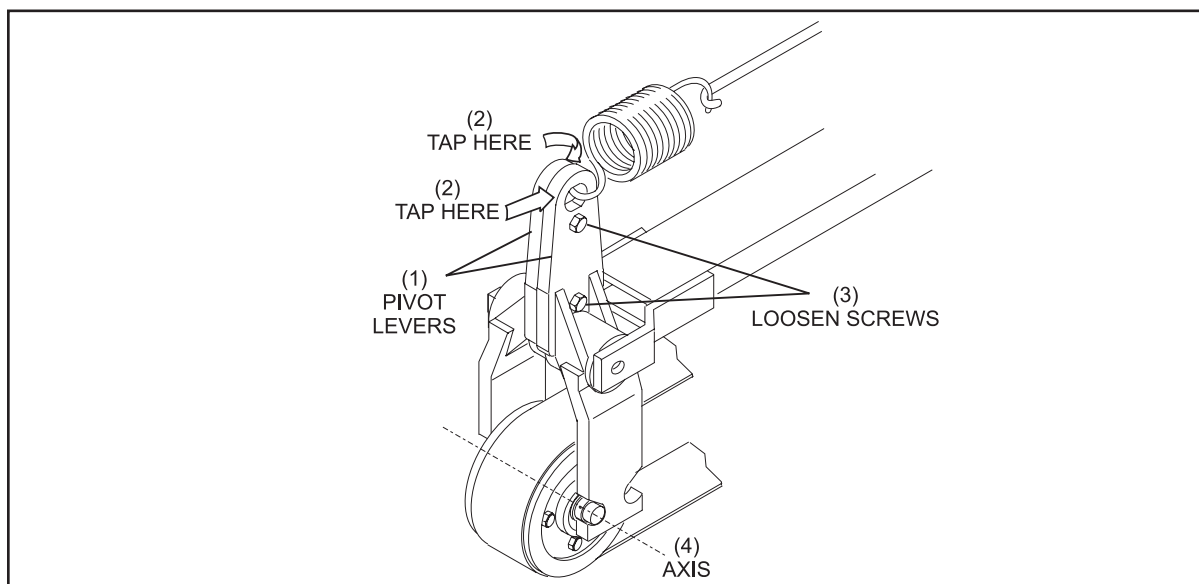

Figure 4-12. Loosen Hardware Securing Pivot Levers.
- a. Using a 17 mm socket, ratchet and wrench, loosen the two screws and nuts securing the pivot levers. ONLY loosen screws enough to allow slight adjustment of pivot levers. Refer to Figure 4-12.
- b. Rotate the belt by hand and observe belt tracking. Use light, short taps from a soft rubber mallet to reposition left and right pivot levers until belt is tracking on the center of pulley drum. Refer to Figure 4-12.